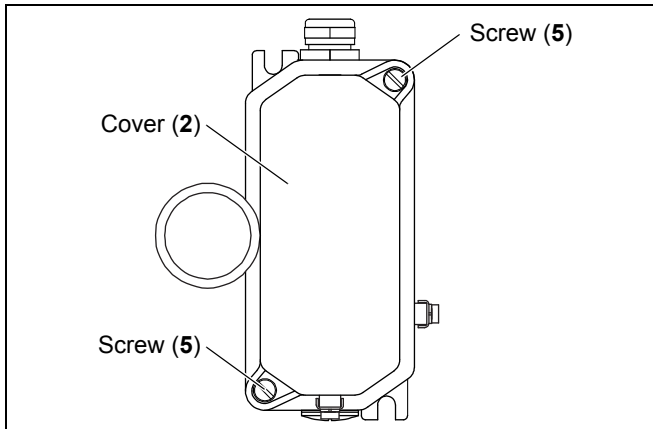

Fig. 5-5: Connecting the belt misalignment switch
2. Open the cover (2) of the belt misalignment switch by loosening the two screws (5) (see *fig. 5-5*).